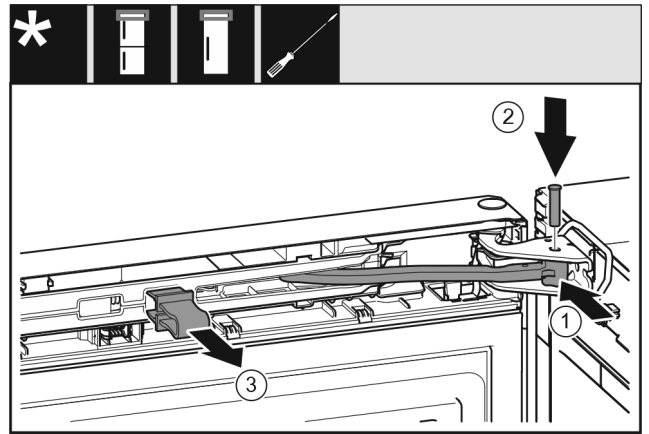

Fig. 23
- ▶ Turn the hinge in the bearing bracket. *Fig. 23 (1)*
- ▶ Insert the bolt in the bearing bracket and hinge. Make sure that the latching lug sits correctly in the groove. *Fig. 23 (2)*
- ▶ Remove the locking device. *Fig. 23 (3)*